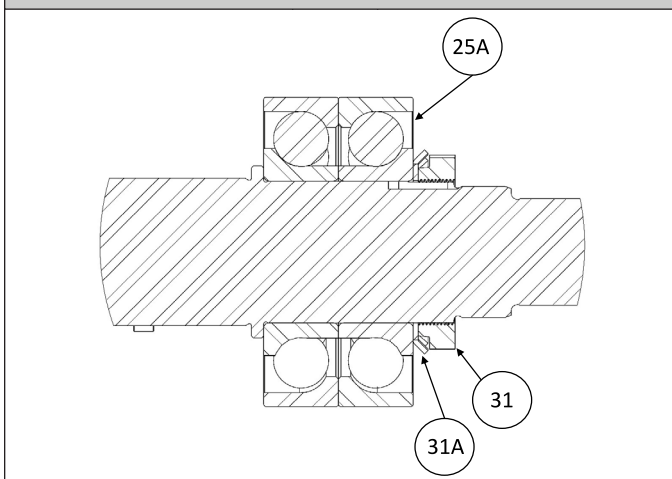

Figure 15
Press the thrust bearings (25A) onto the pump shaft (29) and firmly against the snap ring (75). The thrust bearings are angular-contact type, ground specifically for duplex mounting and must be assembled back-to-back (see Figure 15 on page 31). Note the direction that the races of the bearing are mounted. Do not hammer on the bearings or shaft in any manner as this will cause damage.
Press the thrust bearings (25A) onto the pump shaft (29) and firmly against the shaft shoulder. The thrust bearings are angular-contact type, ground specifically for duplex mounting and must be assembled back-to-back (see Figure 15 below). Note the direction that the races of the bearing are mounted. Do not hammer on the bearings or shaft in any manner as this will cause damage.